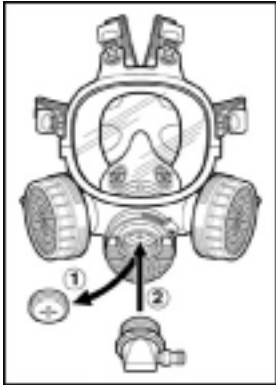

Fig. 9
1. Remove 3M™ Full Face Plug 7890 and screw in 3M™ Adapter W-3187 into center opening. (Fig. 9)